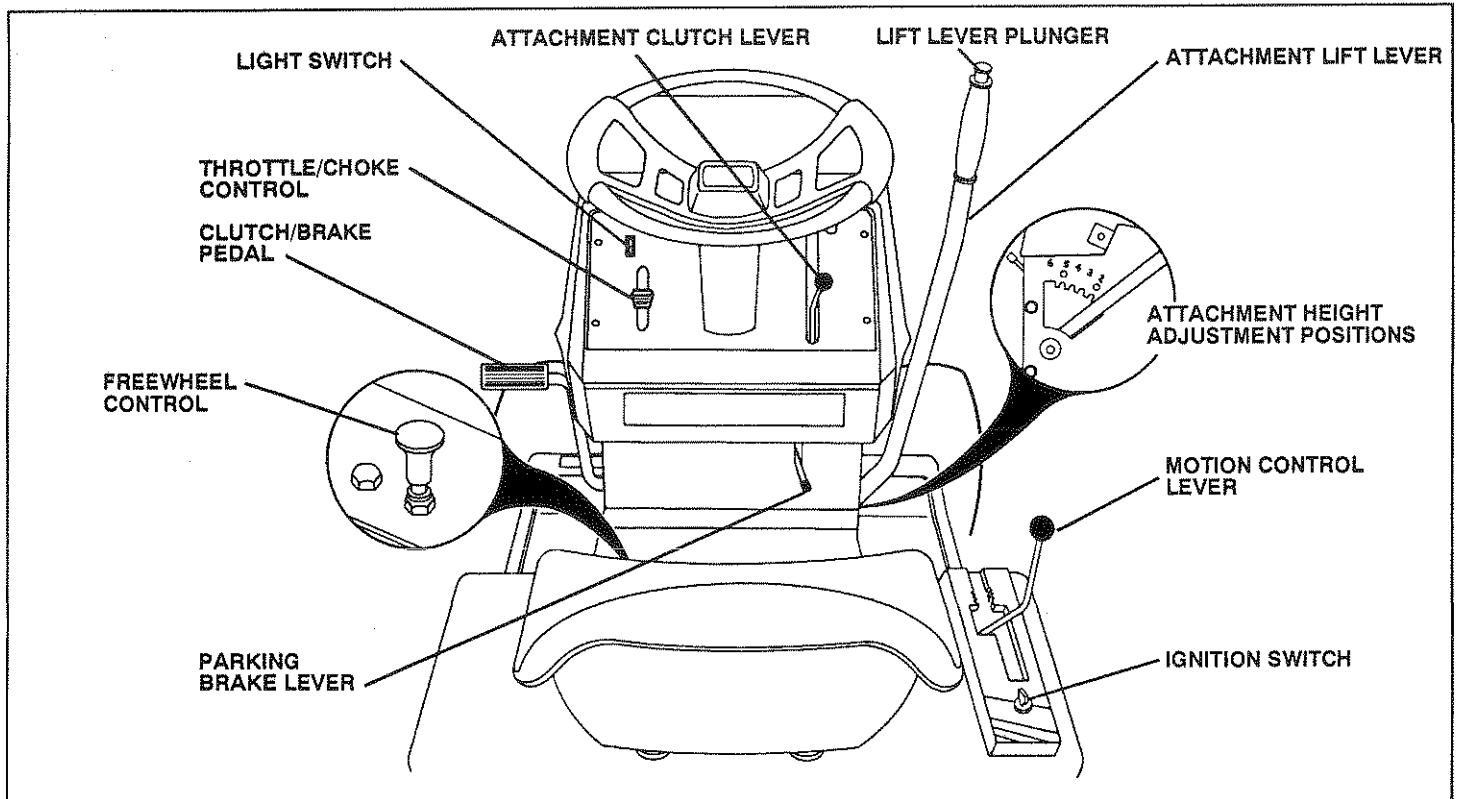

FIG. 6
- Raise attachment lift lever to its highest position (See Fig. 6).
- Release parking brake by depressing clutch/brake pedal (See Fig. 6).
- Pull freewheel knob up to disengage transmission (See Fig. 6).
- Slide seat until a comfortable position is reached which allows you to press clutch/brake pedal all the way down (See Fig. 6).
TO MOVE FORWARD AND BACKWARD (See Fig. 6)
TO ADJUST MOWER CUTTING HEIGHT (See Fig. 6)
- Pull freewheel control knob up to disengage transmission (See Fig. 6).
- Do not push or tow unit at more than five (5) MPH.